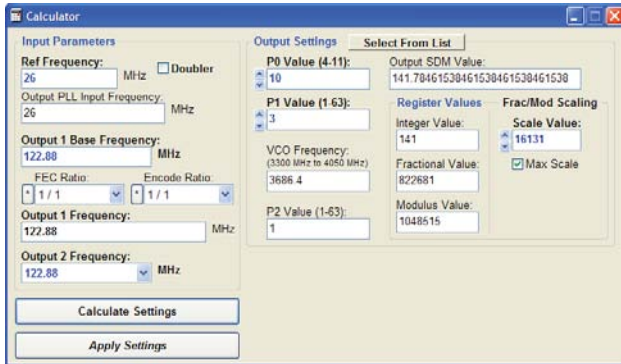

Figure 22. Calculator Window
7. The **Calculator** window, shown in Figure 22, appears.